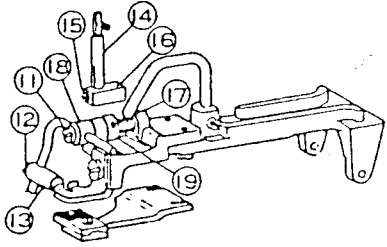

Fig. 36
Next, loosen the screw ⑪ ⑫ Fig.36 and make adjustment so that the shank button holding clamp ⑬ holds the exact center of the button.
To adjust the holding pressure of the shank button holding clamp ⑬, loosen the thrust collar set screw ⑰, Fig. 36 and if the thrust collar ⑱ Fig. 36 is rotated, the pressure of the spring will change, so set it at an optimal pressure.
When you do this, be sure that the button clamp lever holding ⑱ Fig. 36 will not develop any rattling along the shaft direction.
The holding pressure of the button holding clamp ⑬ Fig. 36 should be sufficiently strong enough so that the button does not move during the stitching operation.